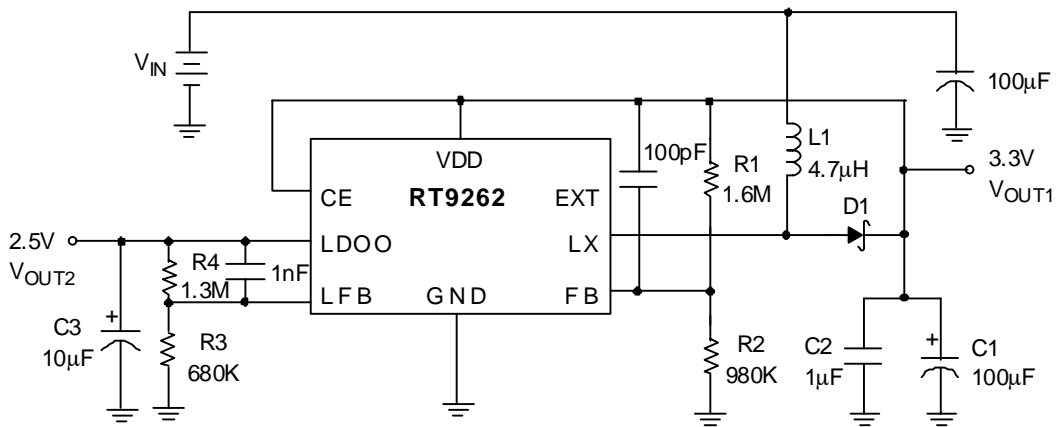
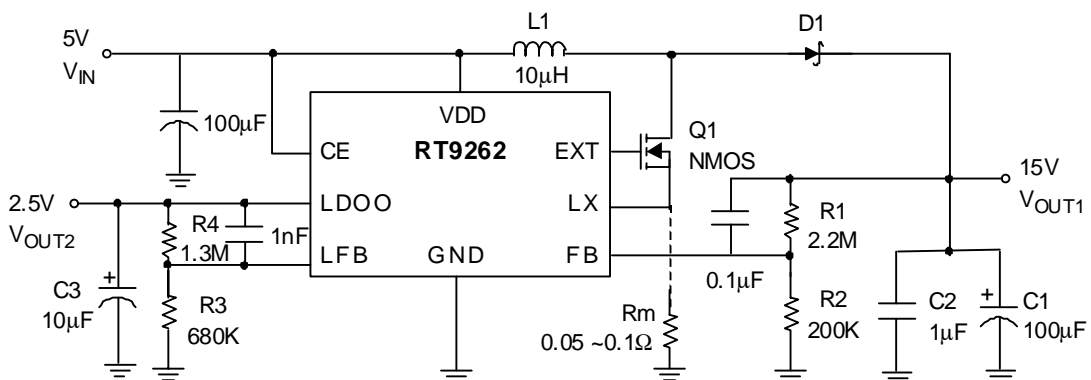

Fig. 1 RT9262 Typical Application for Portable Instruments below 400mA
Fig. 5 High Voltage Application (R_m should be added when $I_L > 100mA$)
Referring to application circuits Fig.1 to Fig.5, the output voltage of the switching regulator (V_{OUT1}) can be set with Eq.1.
Referring to application circuits Fig.1 to Fig.5, The selection of R1, R2, R3, and R4 based on the trade-off between quiescent current consumption and interference immunity is stated below:
- A proper value of feed forward capacitor parallel with R1 (or R4) on Fig.1 to Fig.5 can improve the noise immunity of the feedback loops, especially in an improper layout. An empirical suggestion is around $100pF \sim 1nF$ for feedback resistors of $M\Omega$, and $10nF \sim 0.1\mu F$ for feedback resistors of tens to hundreds $K\Omega$.